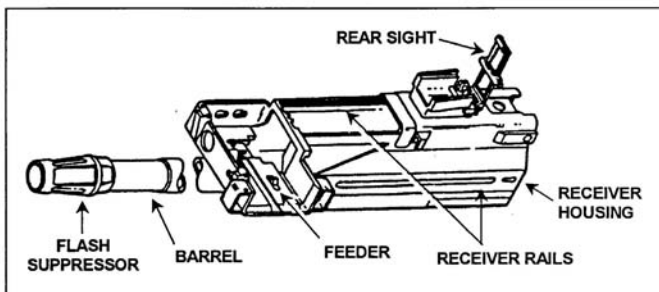

Figure 071-030-0001-15. Receiver assembly
- a. Clean the receiver assembly (figure 071-030-0001-15).
(3) Wipe all parts dry.
b. Clean the receiver sear assembly (figure 071-030-0001-14).
(1) Use only cleaning solvent on a rag or brush.
(2) Wipe or brush away dirt.
(3) Wipe dry.